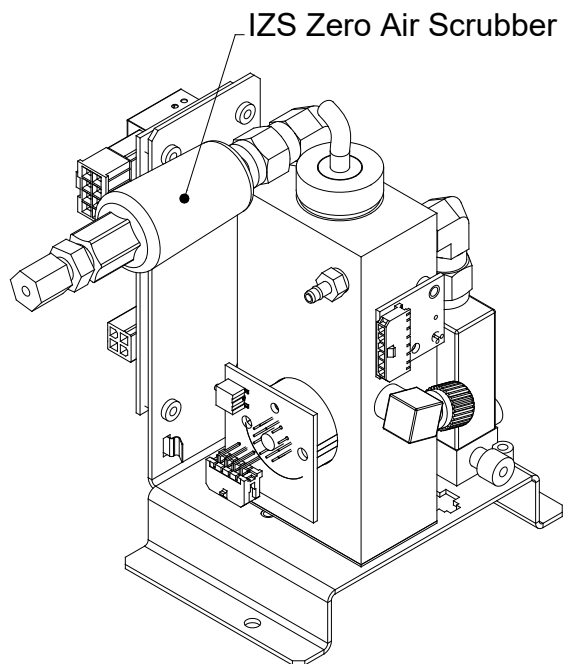

Figure 5-6. Replacing the IZS Zero Air Scrubber
3. Disconnect the white nylon 1/4"-1/8" fitting from the Zero Air Scrubber (See Figure 5-6).